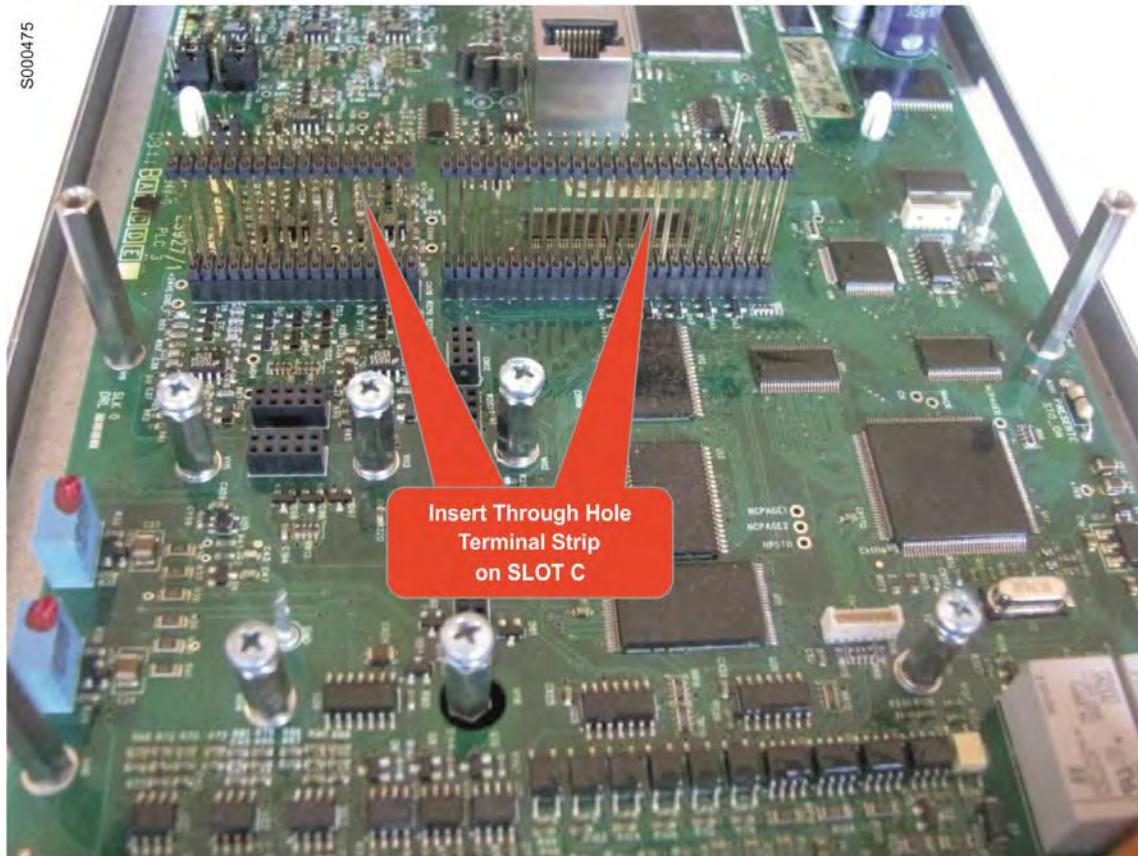

Figure 209: Inserting connector bars into slot C
4. Insert the communications board into slot C; make sure that the connector bars with the two connectors in slot C (CN7A and CN7B) are correctly aligned. See Figure 209. If the board is correctly installed, the four fastening holes will match with the housings of the fastening screws for the fixing spacers. Tighten the board fixing screws as shown in Figure 217.